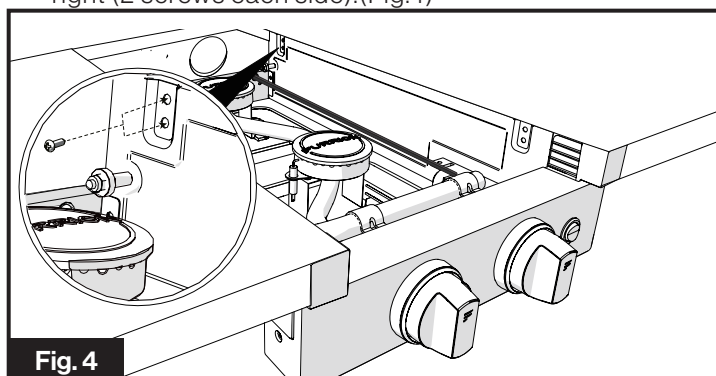

Fig. 4
4. Attach the cooktop into the cabinet on both the left and right sides using four self-tapping screws on both left and right (2 screws each side).(Fig.4)